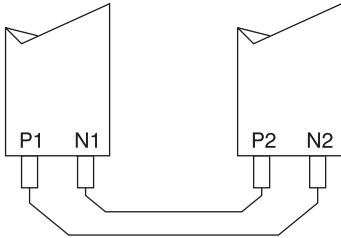

Fig. 19.18
- 3 Cross connect the opposite ends of the phase and neutral loops (Figure 19.18).